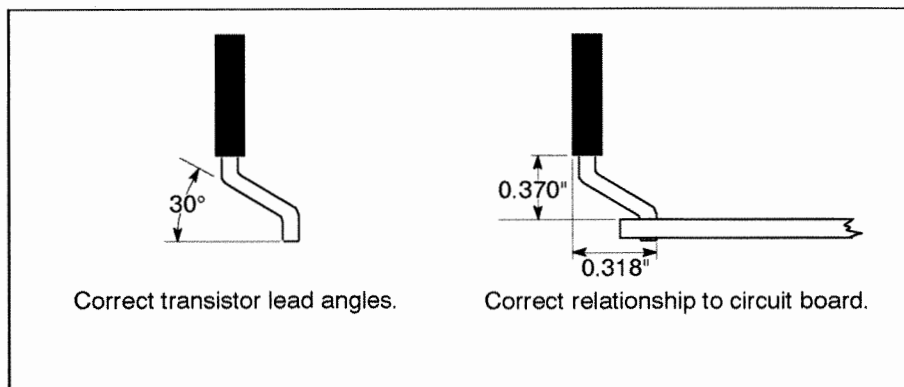

Figure 3-1: Series pass transistor replacement (actual size)
- Carefully bend the new transistor leads according to the dimensions in Figure 3-1. The illustration shows the actual size of the leads so that you can physically compare the lead angles.